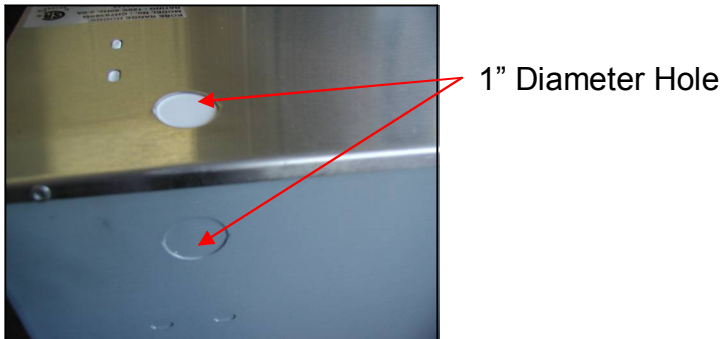

Figure 12
3. Unscrew the six screws on the bottom casing. Remove the bottom casing. Arrange the electrical wires to run through the 1" diameter hole on the top or the rear of the hood. Refer to Figure 12.